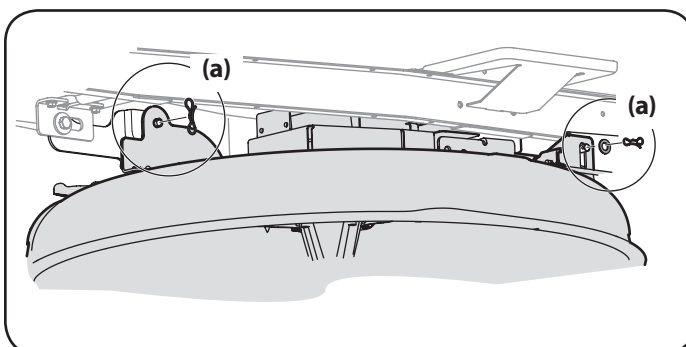

Figure 21
5. Remove the remaining bow-tie cotter pins (a) securing the deck to the tractor, as shown in Figure 21.
- Secure the deck to the deck lift arms using two bow-tie cotter pins. See Figure 21.